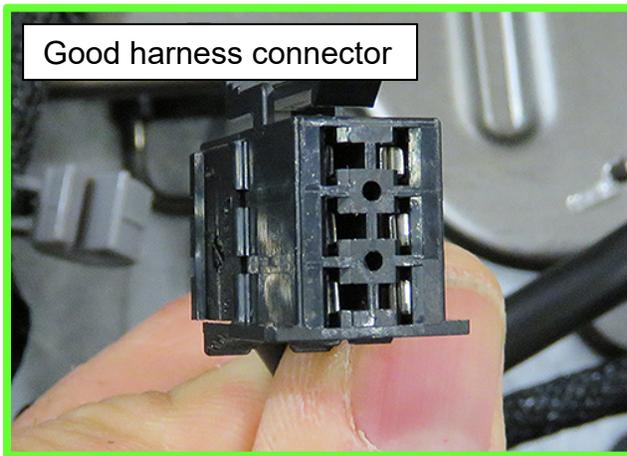

Figure 2
- If the harness connector and the control unit appear similar to Figure 2 **and** Figure 4 (**Good harness and connector**), this bulletin does not apply. Refer to the ESM for additional diagnostic information.